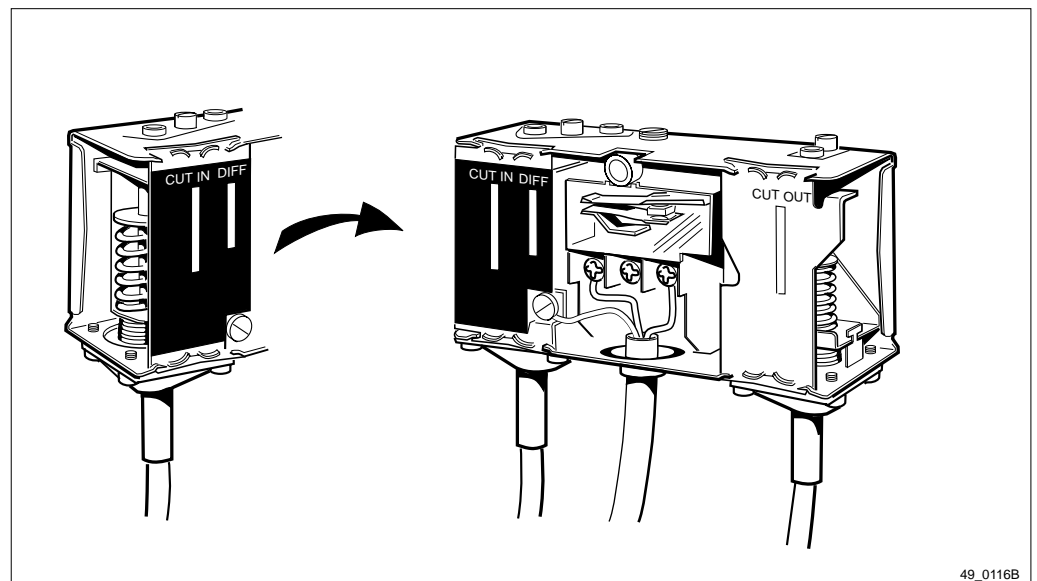

Figure 34 Pressure valve relay
3. Refer to Figure 34 on page 73 and inspect the contacts on the pressure valve relay. Activate the relay manually on both sides to make sure that the contacts have not become frozen together.